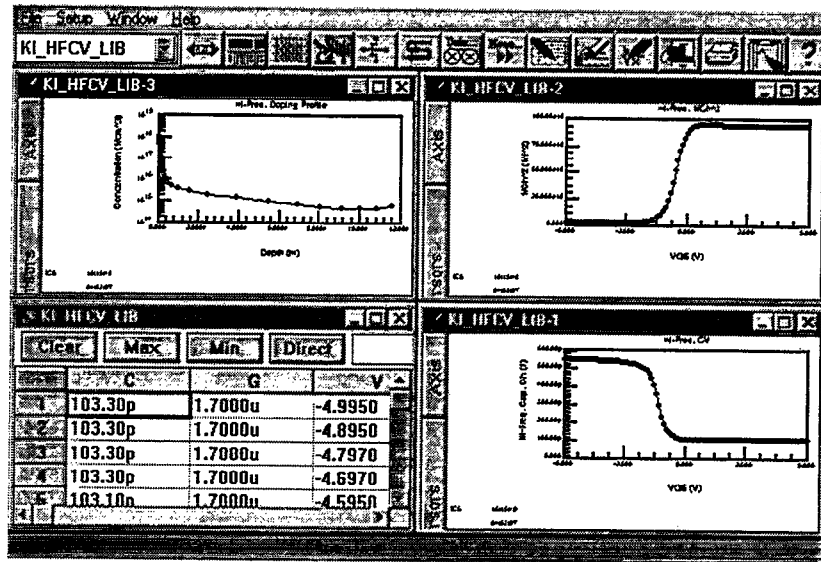
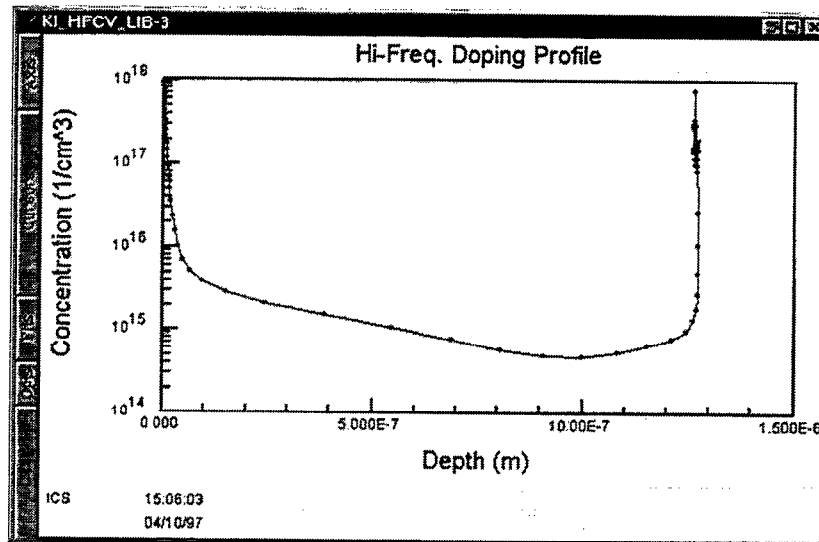
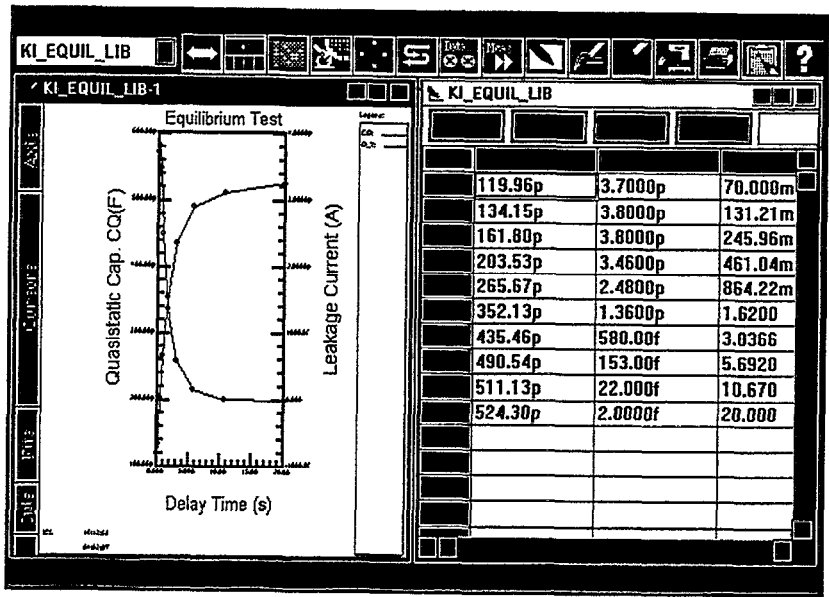

Figure 6 High-frequency Doping Profile Plot
Figure 7 Doping Profile Derived from High-frequency C-V Measurement
Figure 8 Equilibrium State Test Plot
Using the **Import** command under the **File** menu, import the Keithley high-frequency C-V library named **KI_DOPE.DAT**. Your screen should look like the one shown in Figure 6.
A typical doping profile plot is shown in Figure 6. Figure 7 shows doping profile obtained from high-frequency C-V measurement. You may also wish to check leakage current to monitor system performance and device integrity. With this
Using the **Import** command under the **File** menu, import the Keithley Equilibrium library named KI_EQUIL.DAT. Your screen should look like the one shown in Figure 8.
A typical equilibrium measurement is shown in Figure 8. Also shown is the device leakage current during measurement, which can be a valuable tool to monitor system performance and device integrity.
3. The end of the curve where C_H is greater is the accumulation region, while the opposite end of the curve is the inversion region. The transitional area between these two is the depletion region. These areas are marked on Figure 7 and Figure 8.